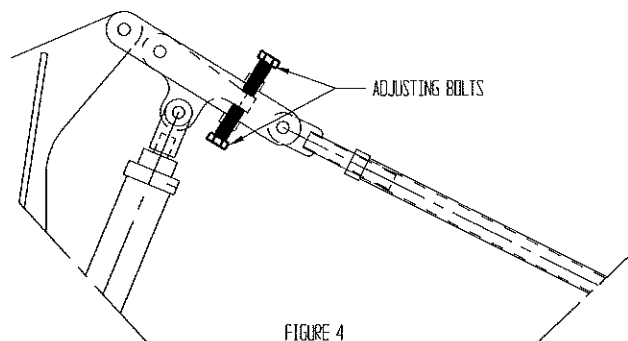

FIGURE 4
- The large turnbuckles on each wing lock must be adjusted to level the wings with the center and hold the bucket wings down tight when in a locked position. There are two adjusting bolts on each lift lock that are used to adjust the hydraulic cylinder stroke to lock the hydraulic cylinder pins about 1/8" to 1/4" past center (Figure 4). This will hold the bucket wings in a locked position with no pressure on the hydraulic lines.